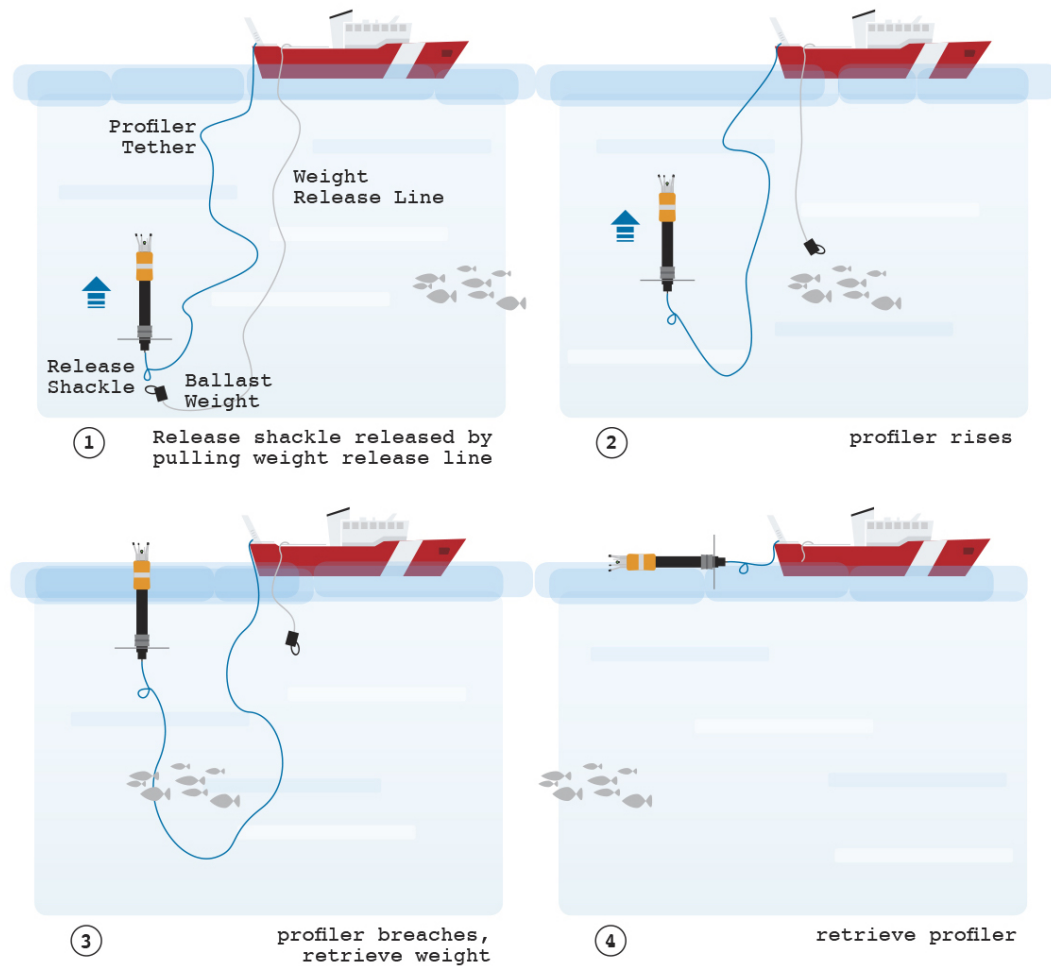

Figure 35: Uprising Profile
The progression of an uprising profile is shown in Figure 35. The deployment technique is similar to that for a downward profile, however, two people are needed – one for the instrument tether and one for the release tether. The two people should position themselves as far apart as the vessel will allow. The deployment procedure is then as follows:
3. Release the instrument by abruptly transferring the tension from the instrument tether to the release tether (Figure 35, top left). This will cause the snap shackle to release and the instrument to rise. You may need to tug on the line once or twice. Give the instrument tether extra slack if necessary.
4. As the instrument rises, continue paying out the instrument tether (in the same manner as you would during a downward profile). This will ensure that the instrument tether remains slack and the resulting U-shaped line will allow the profiler to rise vertically (Figure 35, top right).
5. Once the instrument has breached the surface, recover the ballast using the release tether (Figure 35, bottom left) and the instrument using the instrument tether (Figure 35, bottom right).